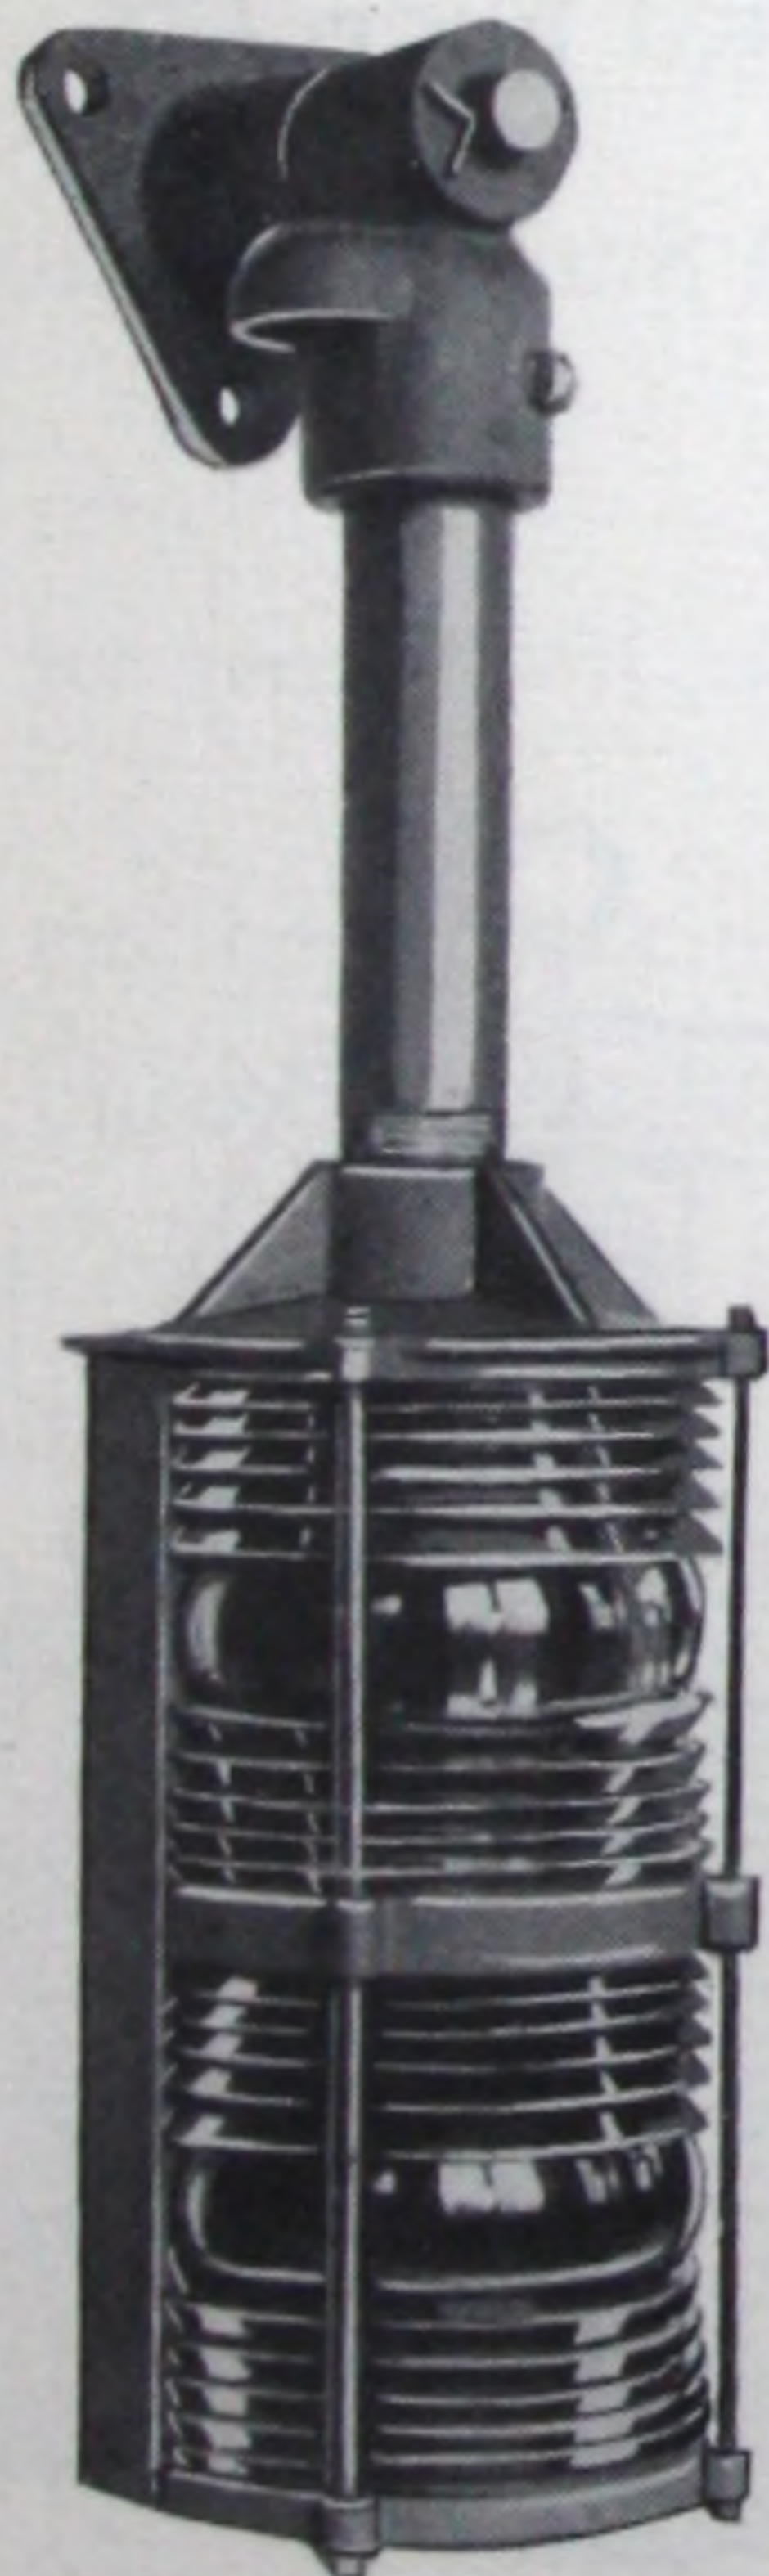

FIG. 2
- Fig. 2 Pivoted Bridge Lamp (red and green)
Fig. 2 lamp is the usual mounting for bascule bridge lamps. The lamp always hangs from a pivot in a vertical position. On highway bridges the lamp is usually swung up to the sidewalk by means of a chain for relamping. The length of the pipe stem depends on the height of the railing and distance of suspension point above low iron. This pipe is 2" standard and is not usually furnished, but will be if correct length can be given. The red lens is mounted in the lower half of the lamp and the green in the upper. Hinged doors are provided on the back of the lamp. The pivot bracket pin should be very firmly bolted to the steel work.